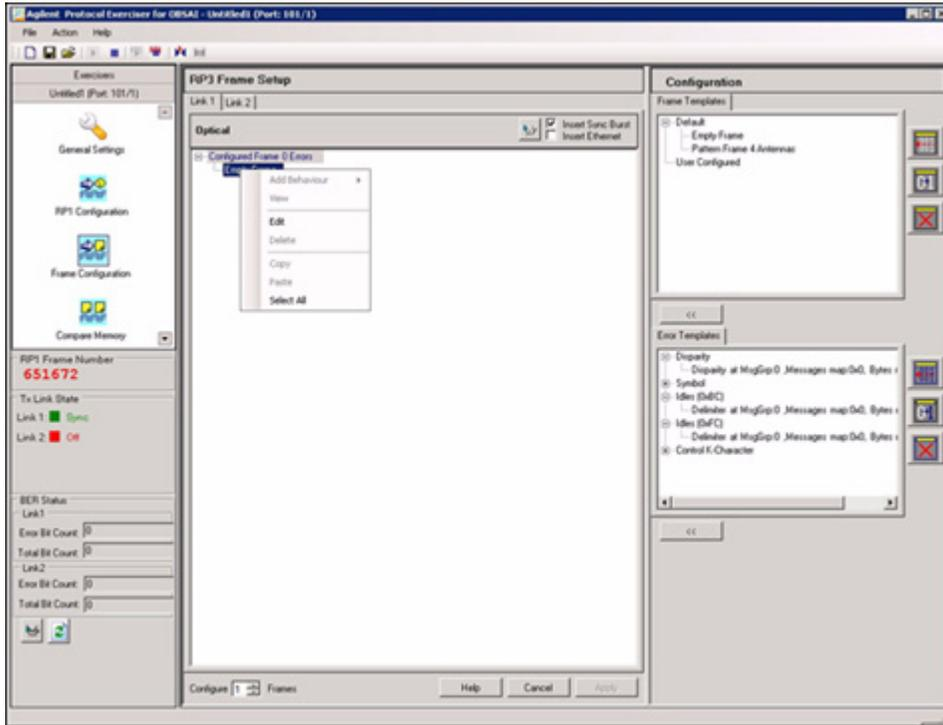

Figure 29 Insert Sync Burst
- 1 Select the check box of **Insert Sync Burst** as shown in the Figure 29.